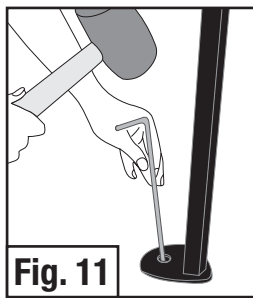

Fig. 11
- Secure shelter by driving stakes through the holes in the base of each frame post. (Fig. 11)